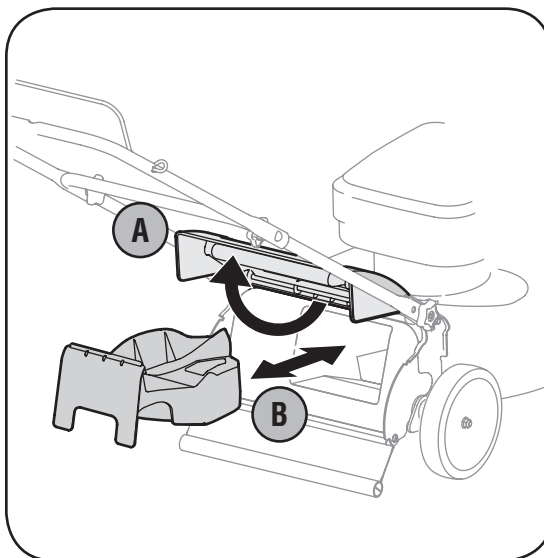

Figure 3-5
- b. Place the grass catcher on the pivot rod. Let go of discharge door so that it rests on the grass catcher. See Figure 3-5.
- b. Insert the rear mulching plug as shown in Figure 3-5 and release the rear discharge door.